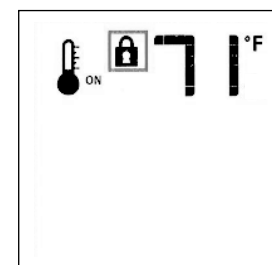

Fig. 15.19. Lock ON.
- To activate the Lock, press the Mode key and UP Key at the same time. Fig. 15.19.